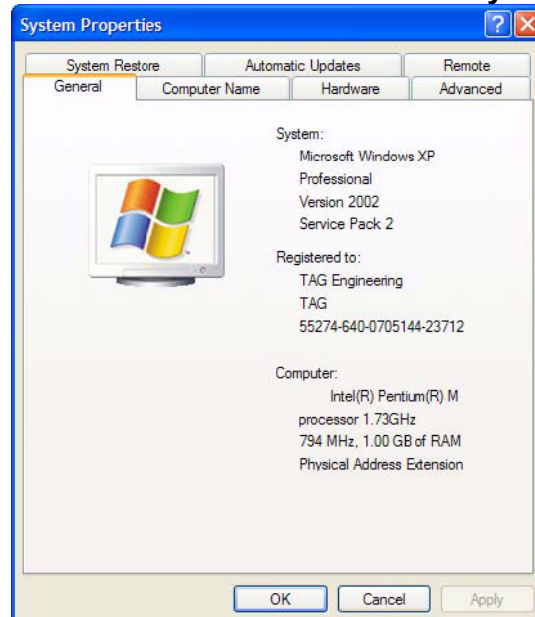

Figure 7-2 System Properties
2. Double-click the **System** icon. (Figure 7-2).